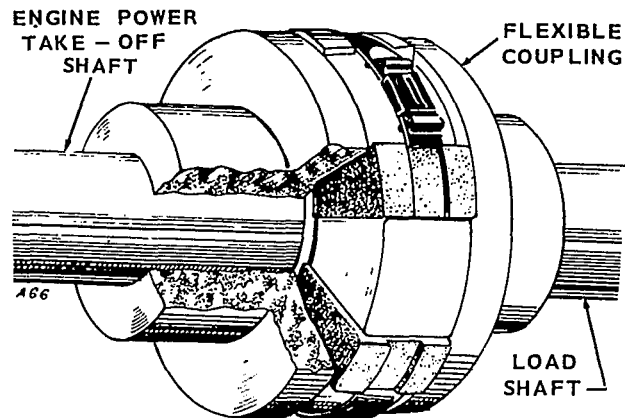

FIGURE 5. FLEXIBLE COUPLING
**Flexible Coupling:** If a flexible coupling engine-to-load drive is used, the load shaft must be in line and centered with the engine shaft (Figure 5).